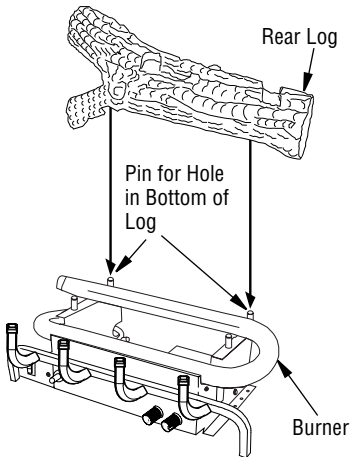

Figure 24 - Installing Rear Log
1. Place the rear log onto base. Notches in the back of the log must seat over the pins on base as shown in **Figure 24**. Make sure the rear log is pushed back as far as it will go.